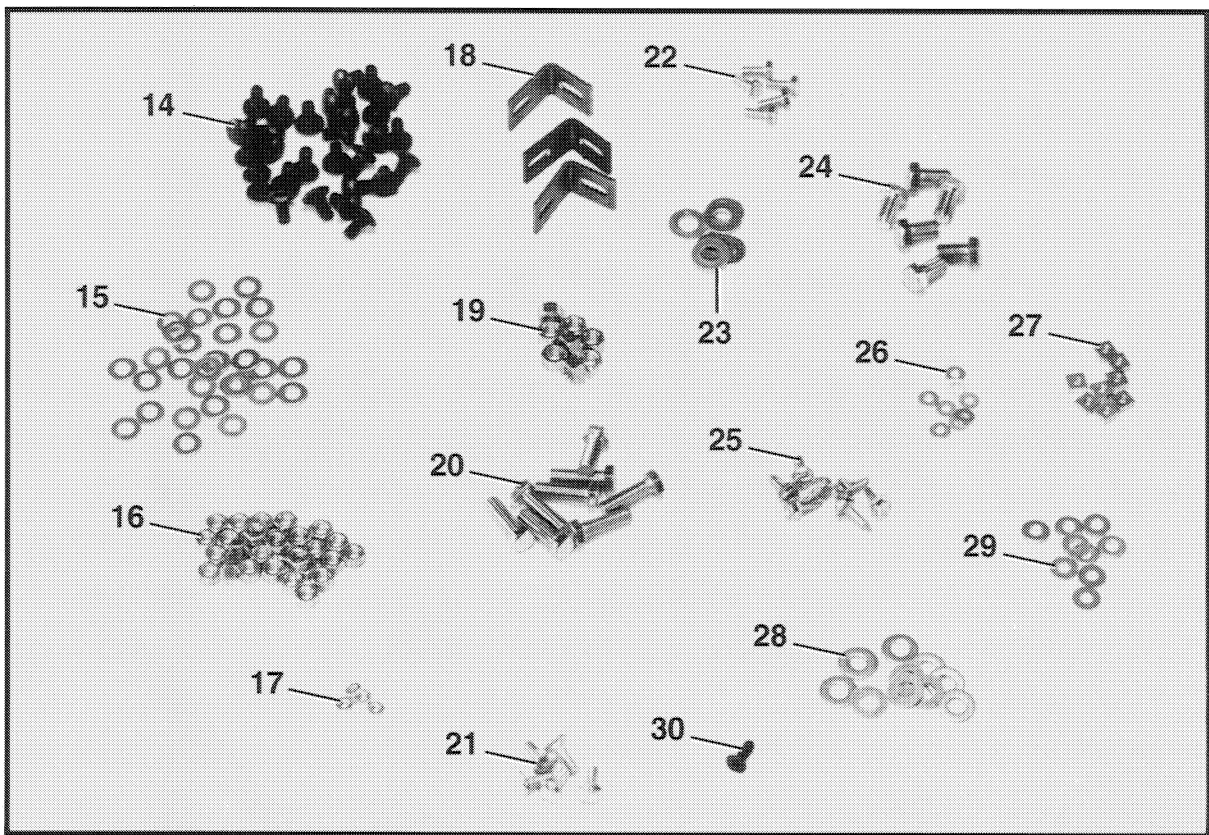
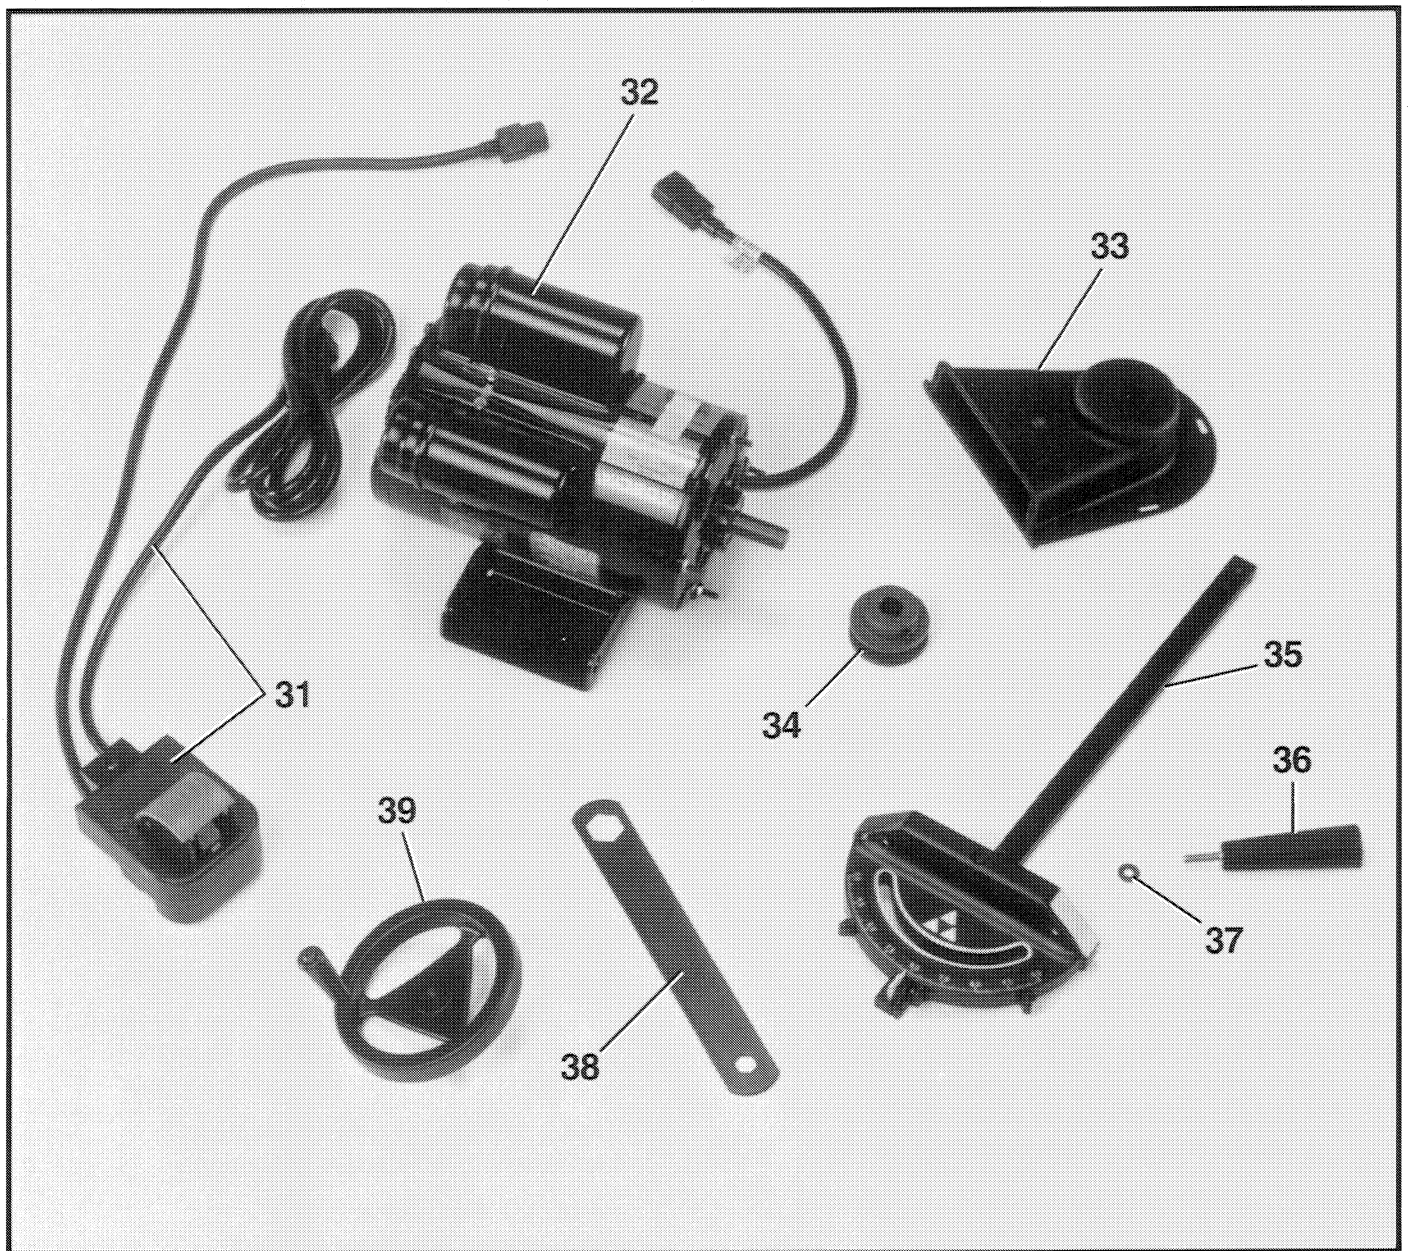

Fig. 4
Fig. 5
- \* not shown in Fig. 4. Shown as item 37 in Fig. 5.